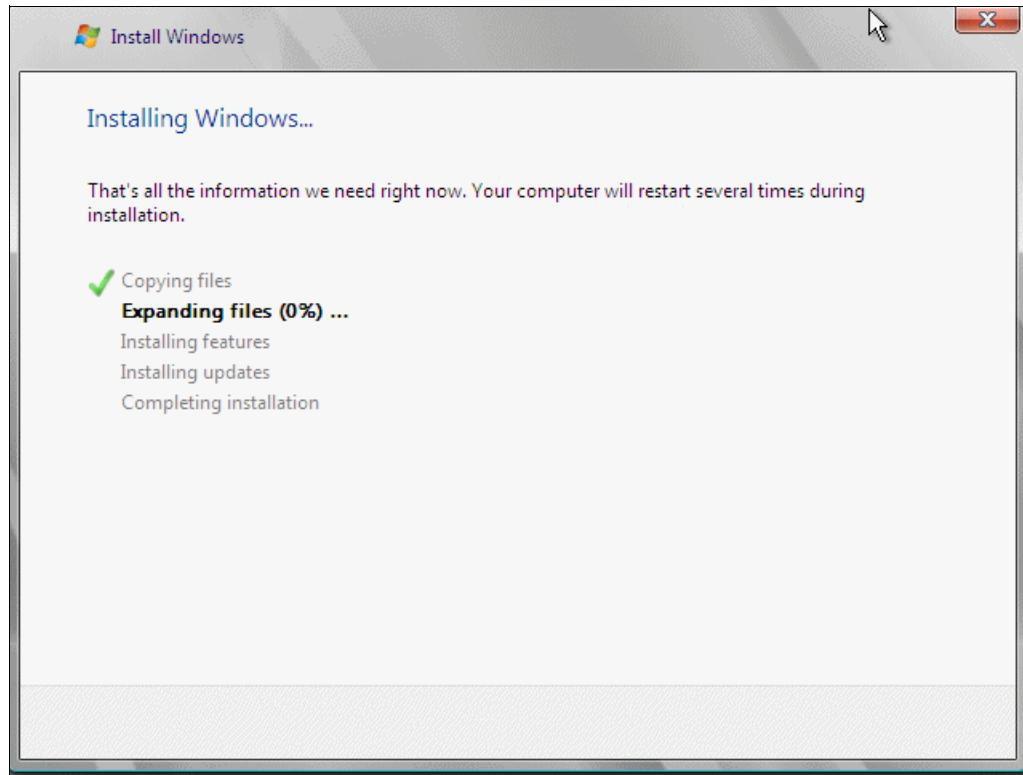

Figure 18-46 *Installing Windows window*
10. Click **Next** again to leave the Windows creates the partition automatically window, or click **Drive options (advanced)** to create the partition. Then click **Next** to start the installation process as shown in Figure 18-46.